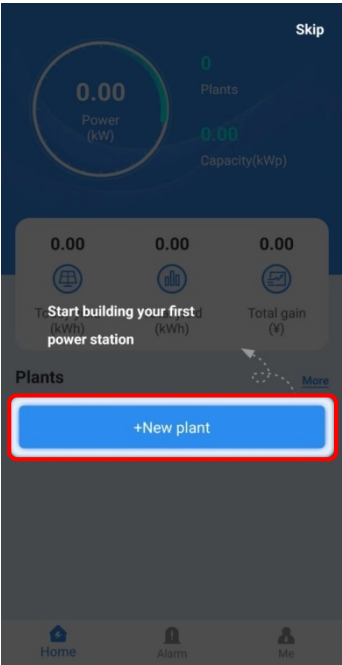

Figure3-31 Main page
Step 2 After entering the main page, it will show the prompting "Start building your first power station", click "+New plant" to built a new plant, as shown in Figure3-31.